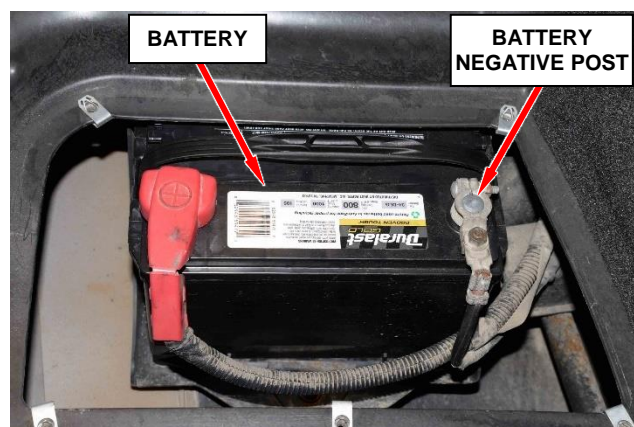

Figure 2 – Battery Location
5. Disconnect and isolate the negative cable from the battery (Figure 2).